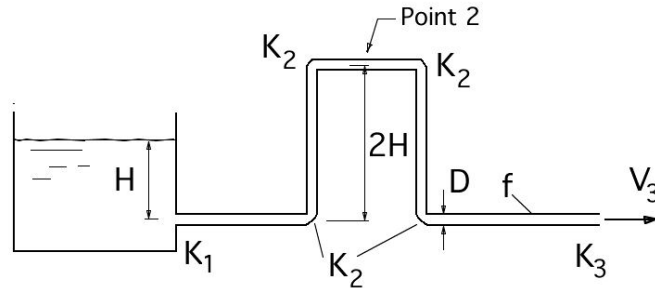

Figure P8.48
8.48 Water of density ρ ($= 1000 \text{ kg/m}^3$) flows from a large tank through a pipe of diameter D , total length L , and friction factor f , as shown in Figure P8.48. The loss coefficients for the entry and exit are K_1 and K_3 , respectively, and along the length of the pipe there are four bends each with a loss coefficient of K_2 . The flow in the pipe is turbulent. The entrance to the pipe is a distance H below the level of the water in the tank.